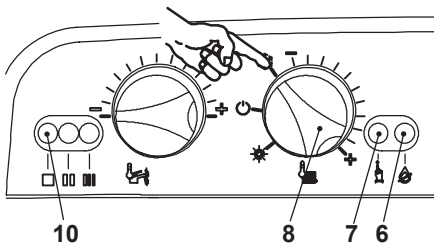

Fig. 7.5
- Turn the function selector 8 as in Fig. 7.5. The appliance operation light 10 will flash every 2 seconds.